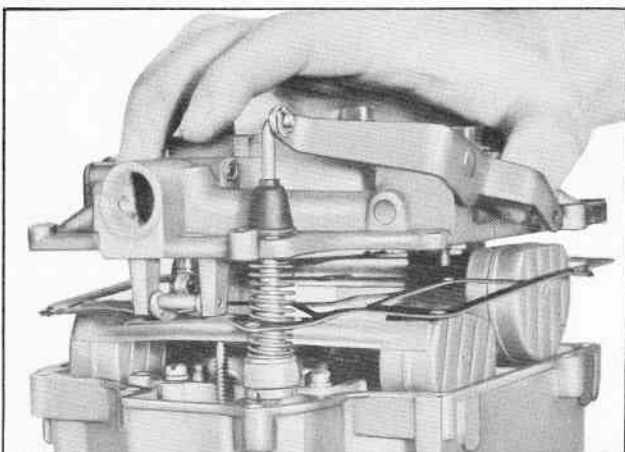

Fig. 11 Air Horn Assembly
12. Remove hinge pin and float assembly on primary side (Fig. 11).
13. Remove float needle seat, gasket and strainer screen from primary side (Fig. 11).